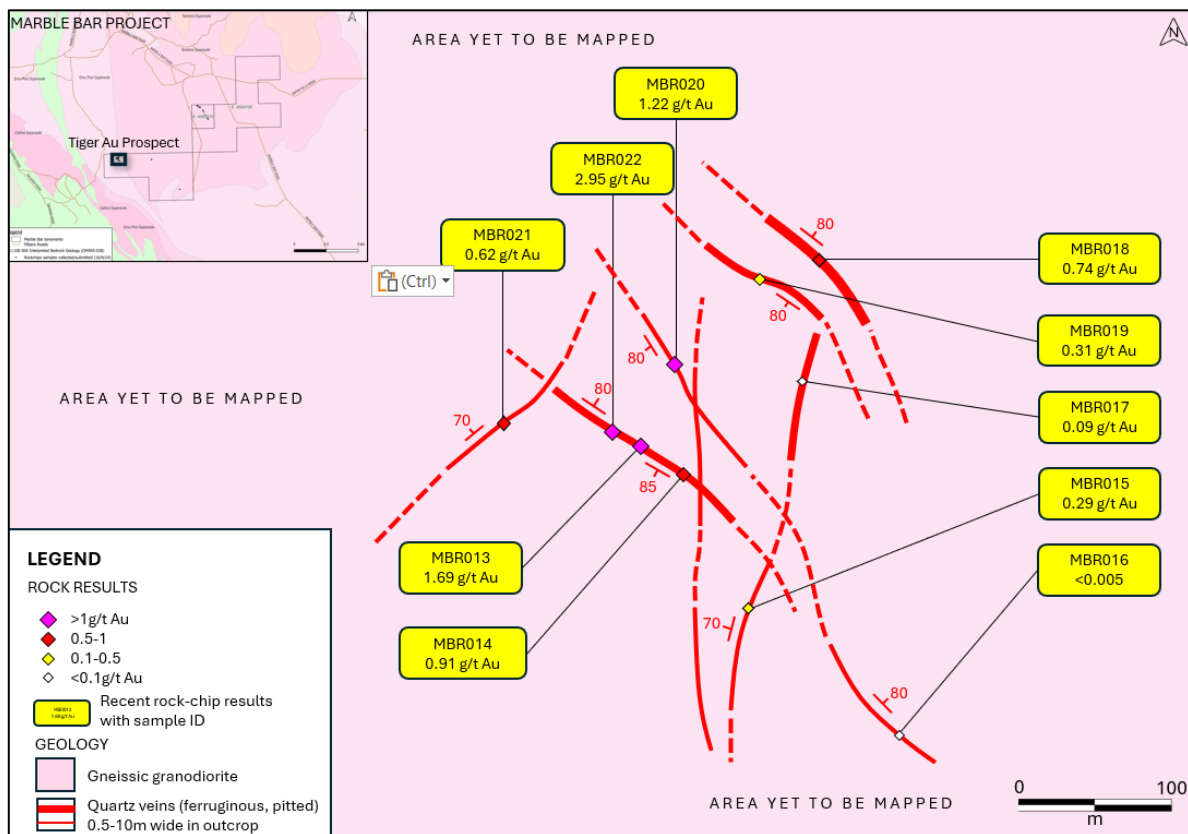

Figure 5. Tiger Gold Prospect, plan view showing quartz veins and rock sampling results
- Tiger Gold Prospect: Rock chips up to 3.0g/t gold from multiple outcropping steeply dipping quartz veins (0.5-10m wide in outcrop) in monzogranite from geological mapping over an 400x400m area (Refer Figures 5 and 6).